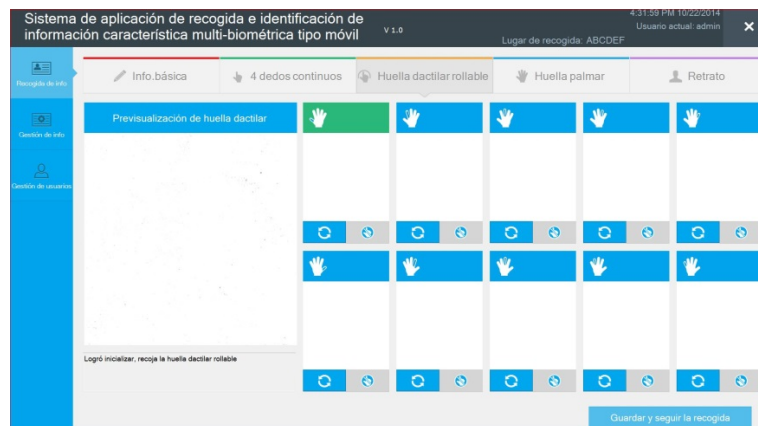
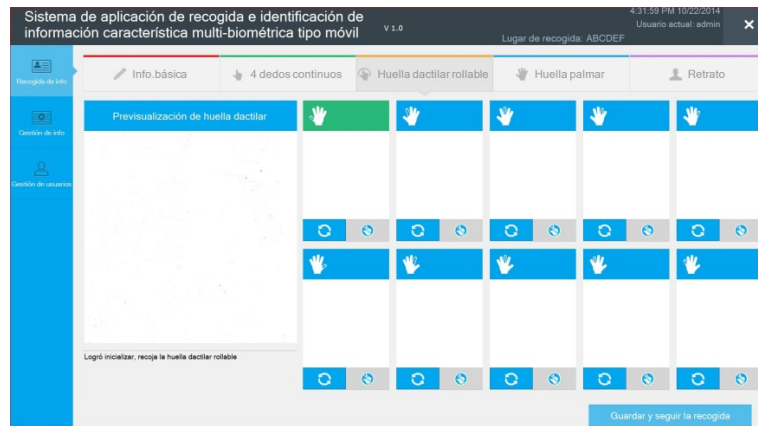

Figure 5.3.1.1
Figure 5.3.2.1
1. After collection of four joint fingers, it is to click  and enter to rolling finger-print collection interface (as shown in figure 5.3.1.1).
2. The collected rolling finger-print in the interface as shown in figure 5.3.1.1, according to diagram indication, it is to collect from thumb of right hand. The green frame is current awaiting collection finger position. If it collects the thumb of right, the diagram indicates (as shown in figure 5.3.2.1).